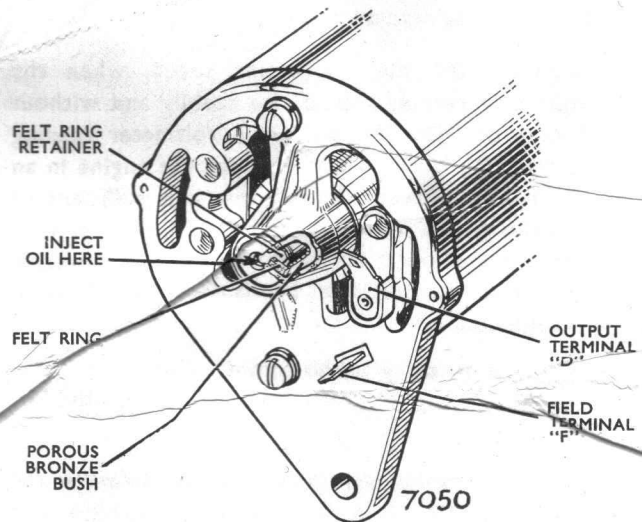

Fig. 2. Generator lubrication and terminal connections
Every 5,000 miles or every six months, whichever occurs first, inject a few drops of Shell X-100, 30 engine oil into the hole marked "OIL" at the end of the commutator bearing housing (See Fig. 2). A felt ring located in the housing will absorb the oil and act as a reservoir.
2. Check the Lucas connections on the commutator-end bracket. The larger connector carries the main generator output, the smaller connector the field current (See Fig. 2).